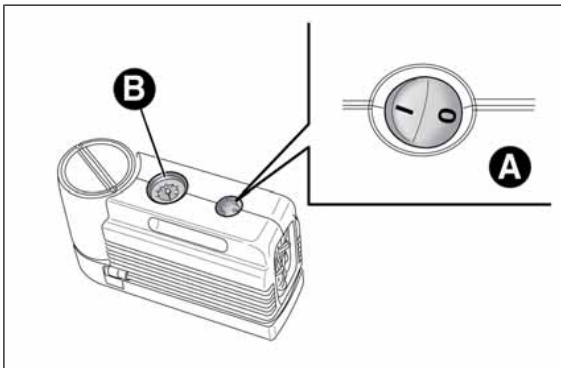
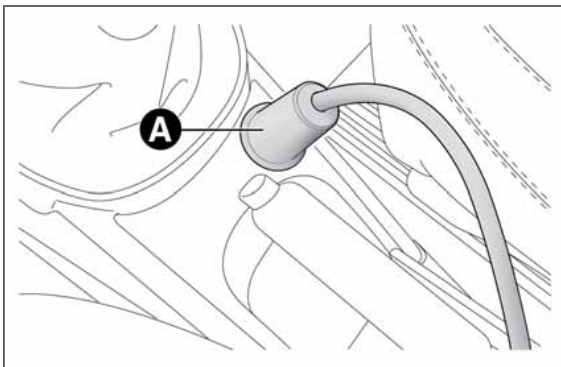

fig. 128
fig. 129
- make sure that switch A fig. 128 for the compressor is in position 0 (off), start the engine, insert the plug A fig. 129 into the power socket on the central tunnel and switch on the compressor by bringing switch A fig. 128 to position I (on);
- inflate the tyre to the pressure indicated in the "Wheels" paragraph in the "Technical specifications" section. In order to obtain a more precise reading, check the pressure value on pressure gauge B fig. 128 with the compressor off;